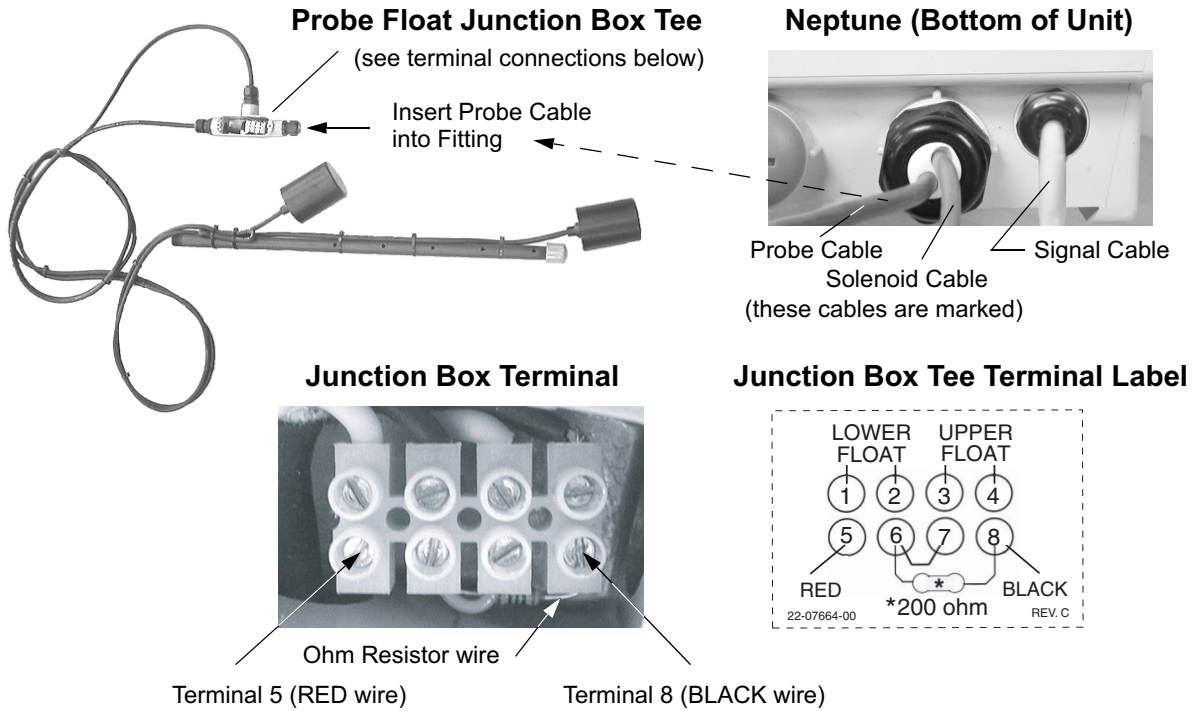

Figure 1-1 Probe Float Electrical Connections (Probe parts diagram on reverse side)
1. Open the junction box tee by removing the two screws and the cover. (See *Figure 1-1* below.)